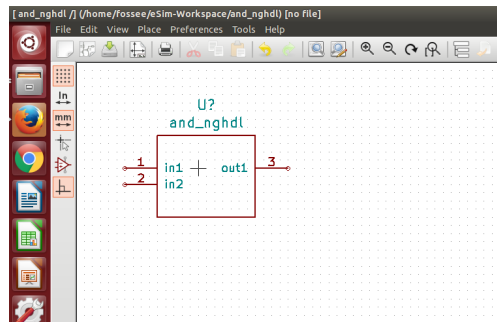

Figure 9.7: Placement of component on editor
2. Next step is to locate the component in *kicad-esim* library as shown in figure Fig. 9.6 and place it on the schematic editor as shown in Fig. 9.7.